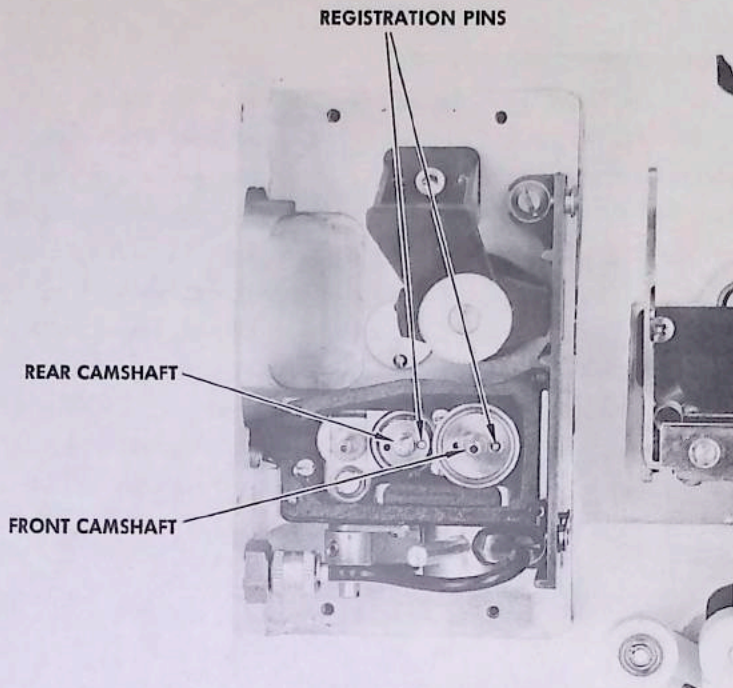

FIGURE 6
Remove the four shutter cover retaining screws and cover. In sequence, remove the elastic stopnut, shuttle pivot bushing washer, shuttle pivot outer spacer, nut cam lock, rear cam retaining washer, special nut, front cam counterweight, front cam lube disc, disengage shuttle spring from shuttle assembly, and remove shuttle assembly, shuttle pivot bushing, shuttle pivot inner spacer, rear horizontal motion cam, and front horizontal motion cam. Loosen the three shutter retaining screws to allow shutter to rotate manually. Rotate shutter knob until the registration pins are to the right of the shafts (Fig. 6) and horizontal to each other. Install the shutter intermittent synchronization tool over the registration pins and lock in position by installing knurled nut (A) on front camshaft. Loosen knurled nut (B) and raise tool bar up against shutter blades in a horizontal position by installing knurled nut (B). Re-tighten the three shutter retaining screws (Fig. 7). The shutter is now synchronized with the intermittent assembly.